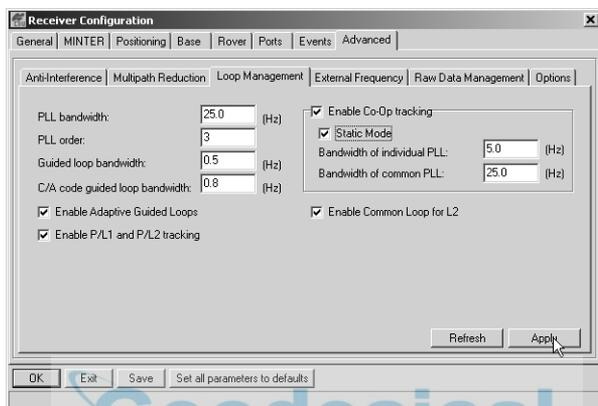

Figure 2-17. Advanced Configuration – Loop Management
6. Click the **Loop Management** tab, enable the following boxes, and click **Apply** (Figure 2-17).